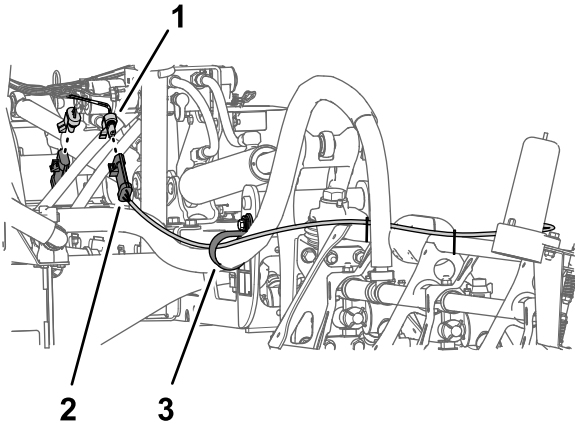

Figure 32
1. Disconnect 3-pin connector of the wire harness for the ultra sonic boom leveling kit from the 3-socket connector of the machine wire harness (Figure 32).